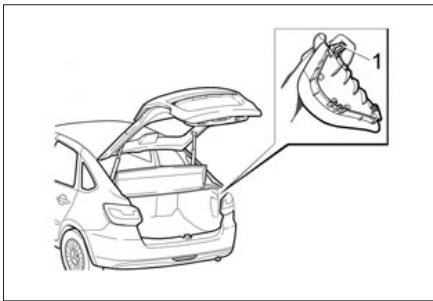

Fig. 60c. Shelf support clip removal
- press finger to the latch 1 (Fig. 60c) through the hole in shelf support clip;